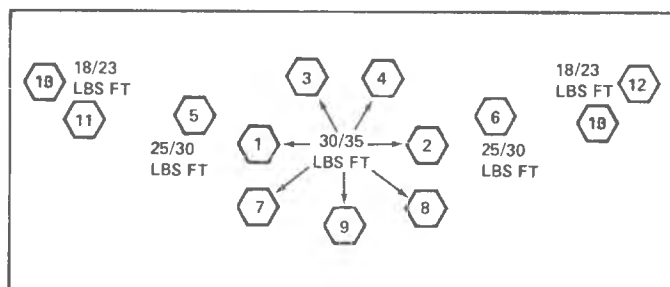

Fig. 1A—Exhaust Manifold to Cylinder Head Bolt
4. Clean, oil and torque all manifold to cylinder head bolts and nuts to specifications (fig. 1A).